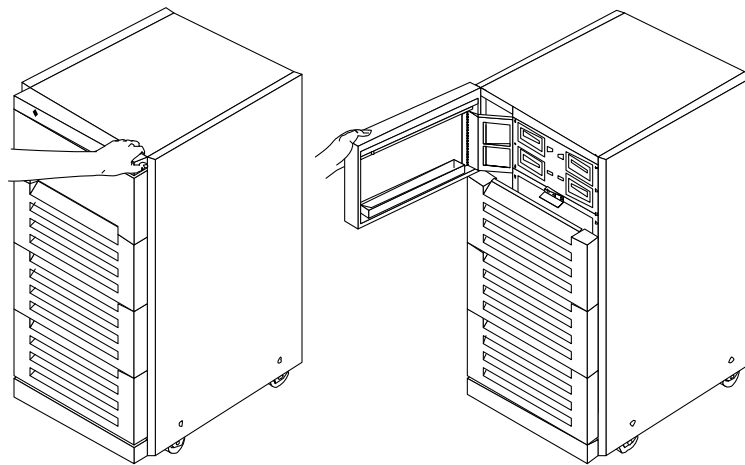
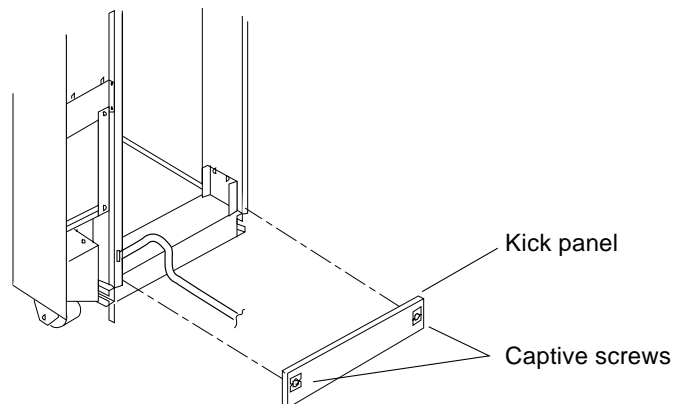

Figure 8-1 Opening the Hinged Door — System Cabinet
Figure 8-4 Removing the Kick Panel
Cabinet outer panels are shown in Figure 8-1 through Figure 8-4.
1. Grasp the door at the upper-right corner and pull towards you firmly. See Figure 8-1. The door is secured by clips and ballstuds at the side opposite of the hinge. The door is released and swings open if pulled firmly.
1. Loosen the two captive screws. See Figure 8-4.